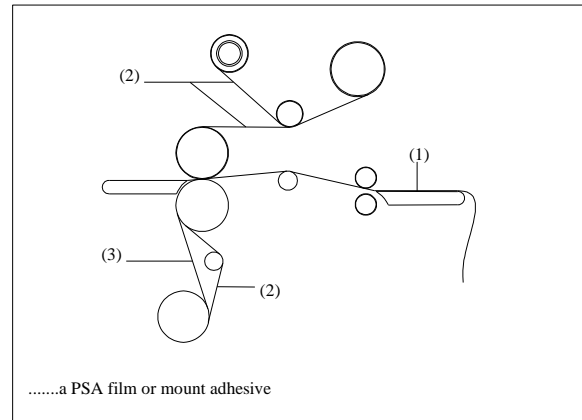

Fig. 13
1. Using a slitter, cut (1) the output from the web (Fig. 13).
2. Cut (2) remaining top film web between the idler bar and heat roller. PSA film cut the release liner too.
3. Cut (3) the film web between the lower film supply and the idler bar (Fig. 13).